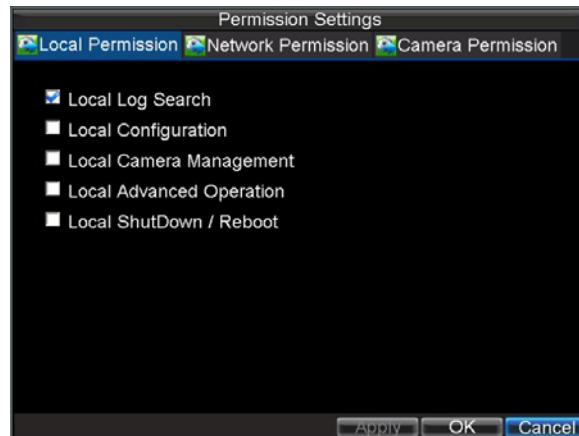

Figure6. Permission Settings Menu
5. Select the *Permission* button to enter the Permission Settings menu, shown in Figure 6.